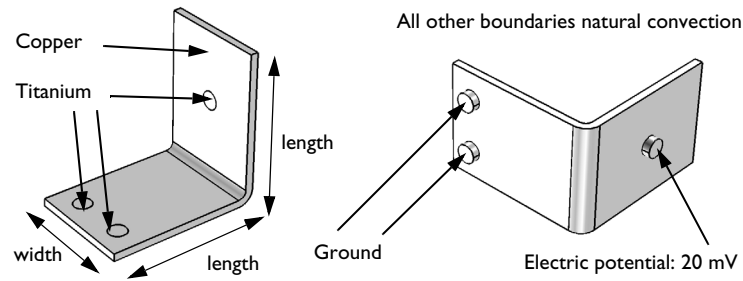

Figure 2: Material and boundary settings in the model.
- 4 On the object **fin**, select Boundaries 8 and 14 only. These are the two bolt faces marked as Ground in Figure 2.
- 4 On the object **fin**, select Boundary 28 only. This is the bolt surface where the electric potential condition applies, see Figure 2.